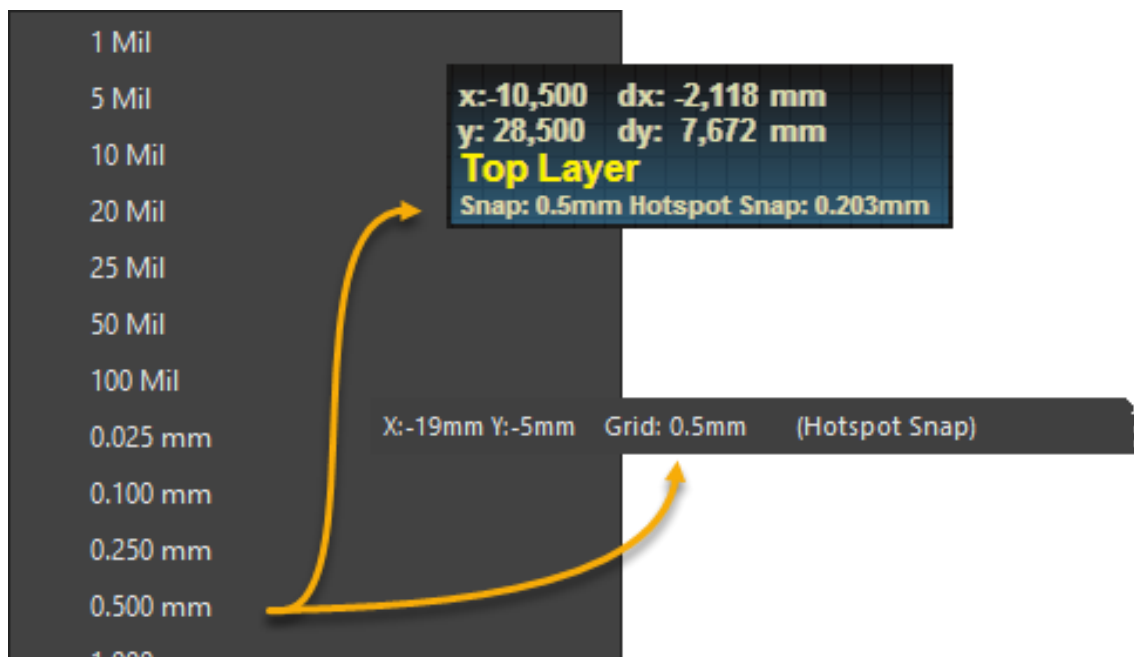

Figure 1. Grid selection dialog
13. Select one of the predefined values. The visible grid will change in the PCB. The selected value will show in the Status Bar and the Heads-Up Information, as shown in Figure 1 below.
14. Press **Q** to toggle the used Unit between Metric (mm) and Imperial (Mil). You can see the used Unit in the Status Bar and the Heads-Up Information as shown in Figure 1 below. Be aware of changing the Unit does not change the Grid Value.